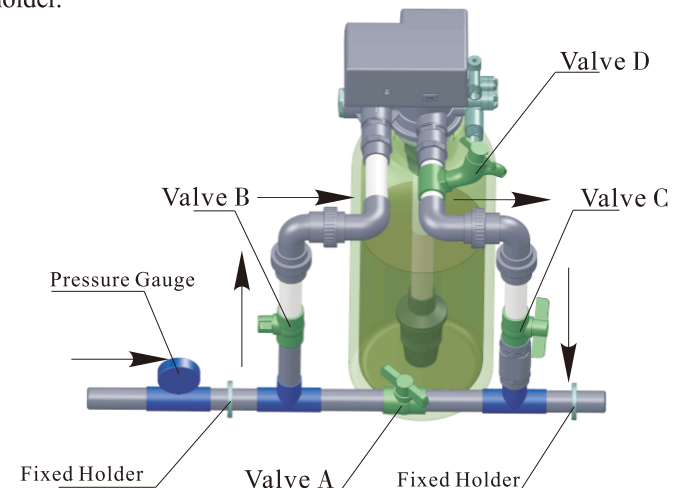

Figure 1-2
②Pipeline connection
- a. As Figure 1-2 shows, install a pressure gauge in water inlet.